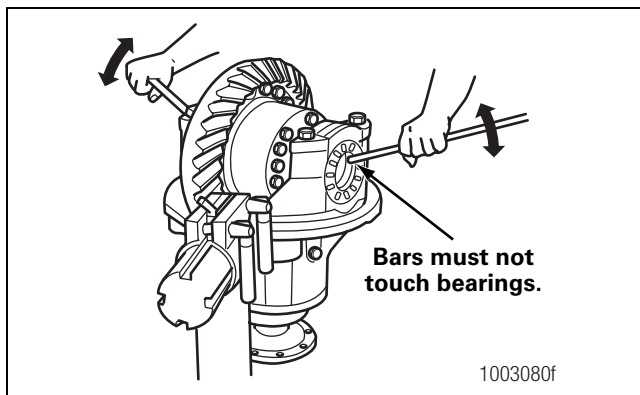

Figure 5.55
- A. Insert two pry bars between the bearing adjusting rings and ends of the differential case. The pry bars must not touch the differential bearings. Figure 5.55.